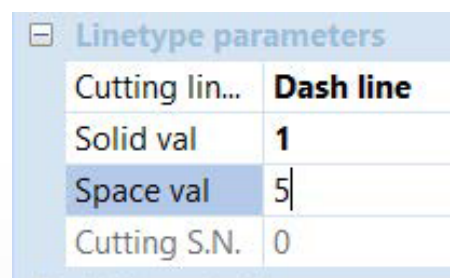

Figure 4.12
- ☒ Change a solid line to a Dash/Perforated line – Cutting Line [Figure 4.12].